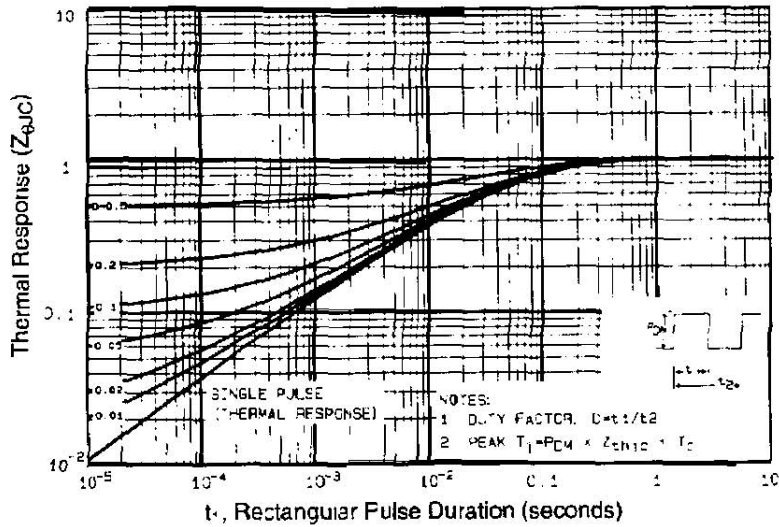

Fig 11. Maximum Effective Transient Thermal Impedance, Junction-to-Case
① Repetitive rating; pulse width limited by max. junction temperature (See Figure 11)
② I_{SD}≤10A, di/dt≤120A/μs, V_{DS}≤V_{(BR)DSS}, T_J≤150°C